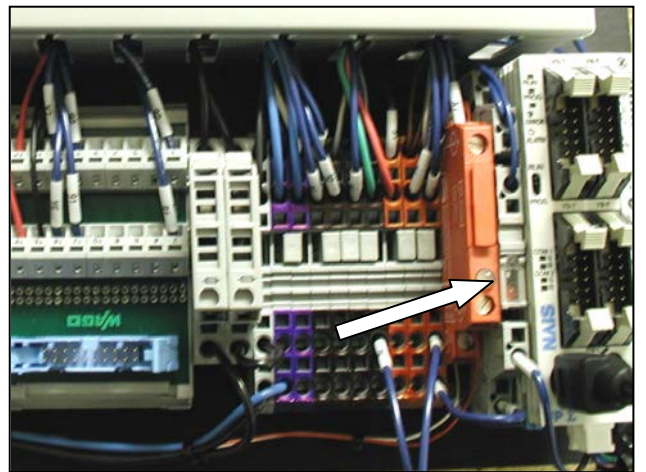

Figure 3-108. Relay location
2. Locate Grey Relay (Figure 3-108).